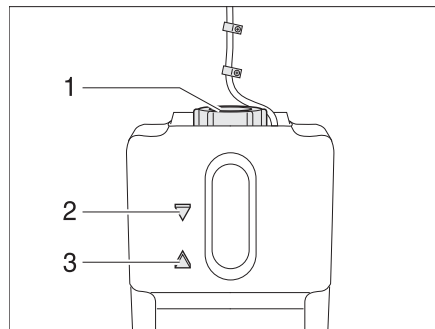

Fig. 162 Compensator reservoir hot-water heater
- Check if the fluid level is between the marks "MIN" (Fig. 162,3) and "MAX" (Fig. 162,2) on the compensator reservoir (Fig. 162).
- Unscrew the screw cap (Fig. 162,1) at the compensator reservoir.